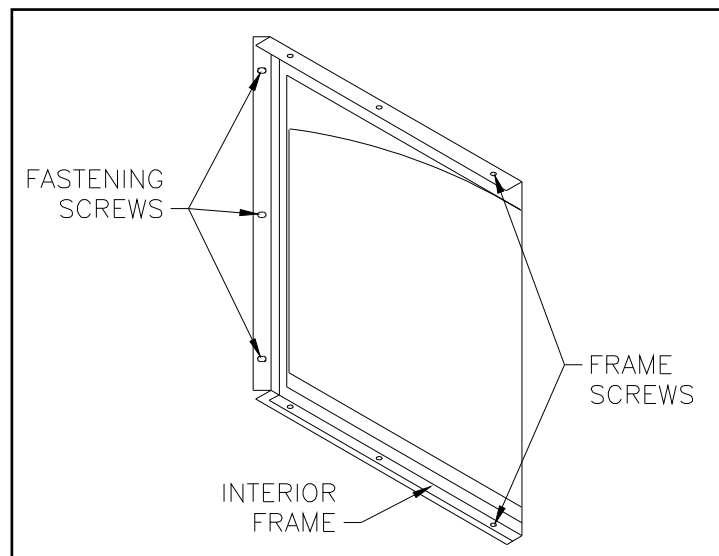

Figure 1
The glass doors can be adjusted by loosening the three (3) screws of the hinges' supports (see fastening screws in figure 1). If a minor angular adjustment is needed, you may loosen only two (2) of the three (3) screws using the other as a pivot point.